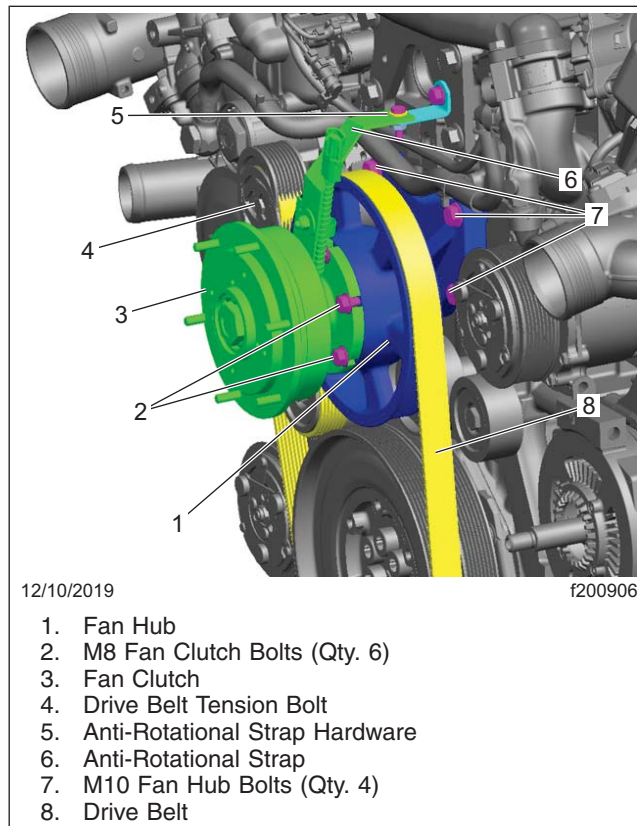

Fig. 1, Fan Clutch Assembly
5. Remove the bolt and nut from the anti-rotational strap and set aside. See Fig. 1.
6. Loosen, but do not remove, the six fan clutch bolts. See Fig. 1.